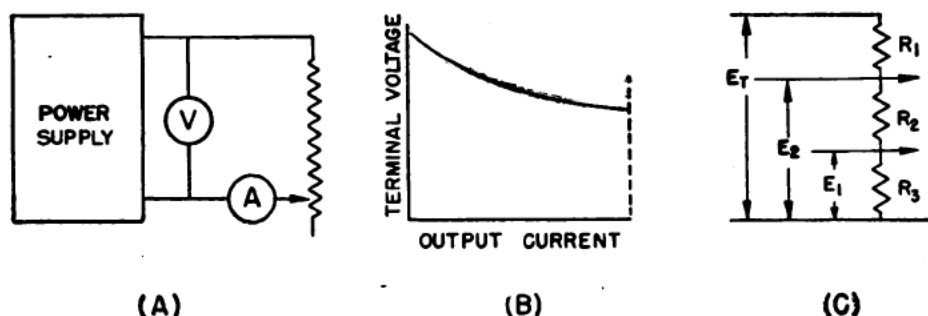

Figure 39.—Voltage regulation circuit.
You have in figure 39 a simple circuit that helps you obtain these data. Connect a variable resistance across the terminals of the power supply. By varying this resistance, you determine the terminal voltage over a wide range of load-current values. If you plot these values in a graph, you obtain a characteristic curve similar to that of figure 39 (B). With the information contained in this graph, you can design a voltage-divider or alter any existing
Before proceeding with the actual design of a voltage-divider, you must get one more value. Look at figure 39 (C). When two voltage levels are required, you use THREE resistors. Resistor R_3 , referred to as the BLEEDER RESISTOR, stabilizes the voltage at the other taps. When the power supply has excellent regulation and the current drawn from the taps is fairly constant, you may eliminate this resistor. Because power supplies rarely have excellent regulation, this third resistor is usually included.